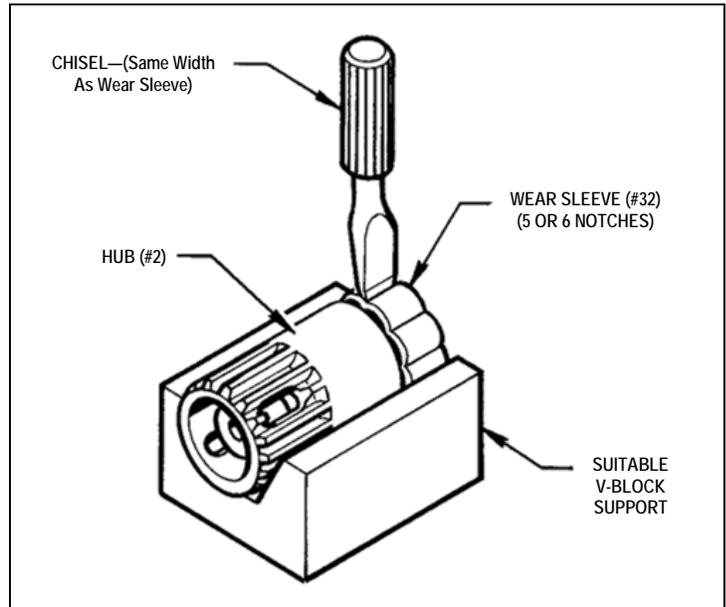

Figure 7.10—Removing Wear Sleeve (#32)
1. Place the Hub (#2) into a V-Block. Using a chisel the same width as the Wear sleeve (#32), make about 5 or 6 notches in the Wear Sleeve (#32) as shown in (Figure 7.10). It can now be removed